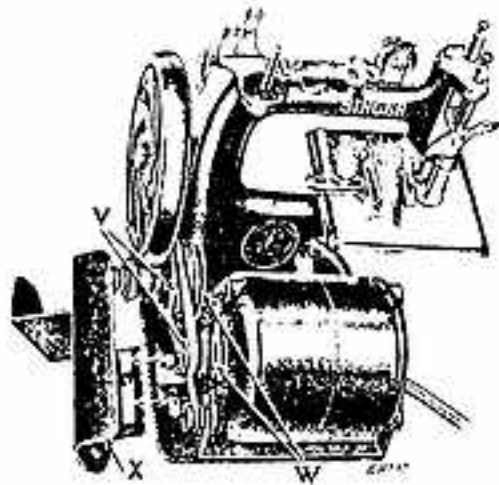

FIG.3
To change to a different speed, remove the guard (X, Fig. 3) over the motor pulley by pressing it downward and sliding it back.
For the slow speed, move the belt to the outside grooves (V) in the two pulleys, as shown in Fig. 3. For the faster speed, move the belt to the inner grooves (W) in the pulleys. Be careful not to stretch the belt.